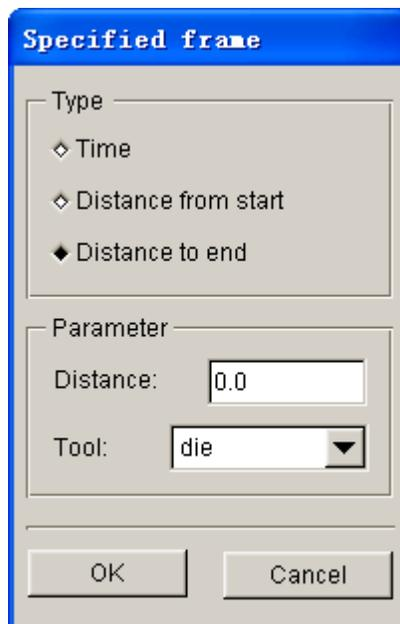

Figure 8.2.86 Specified Frame Define
**ADD...**The user may click this button to add specific output frames. The program displays the specified frame dialog box illustrated in Figure 8.2.86.